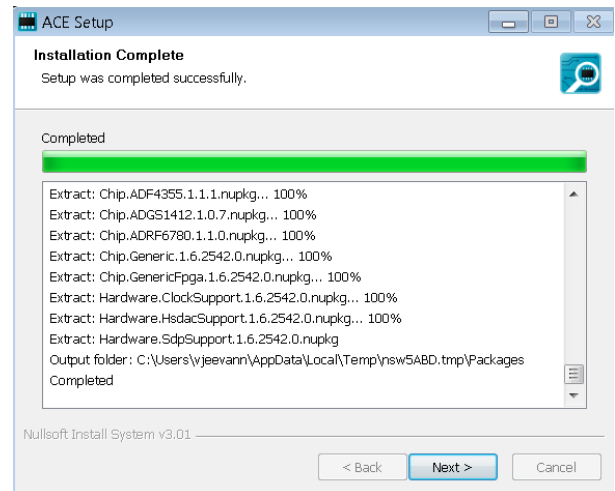

Figure 9. Installation Complete
9. When the installation is complete, click **Next >**, and then click **Finish** to complete the installation process (see Figure 9).